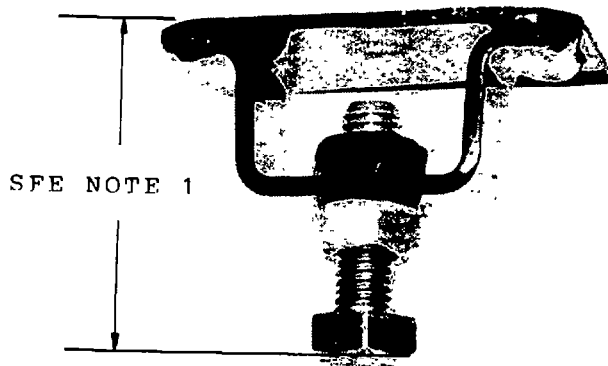

FIG 3 - COMPLETED MODIFICATION
- e. Fit the bolt and locknut (Table 1, items 2 and 3) to the stop bolt bracket as shown in Fig 3.
- 1. If the stop bolt head to pedal dimension as shown in Fig 3 is considerably less than 50mm, the throttle linkages are either bent or incorrectly adjusted and rectification action must be carried out.